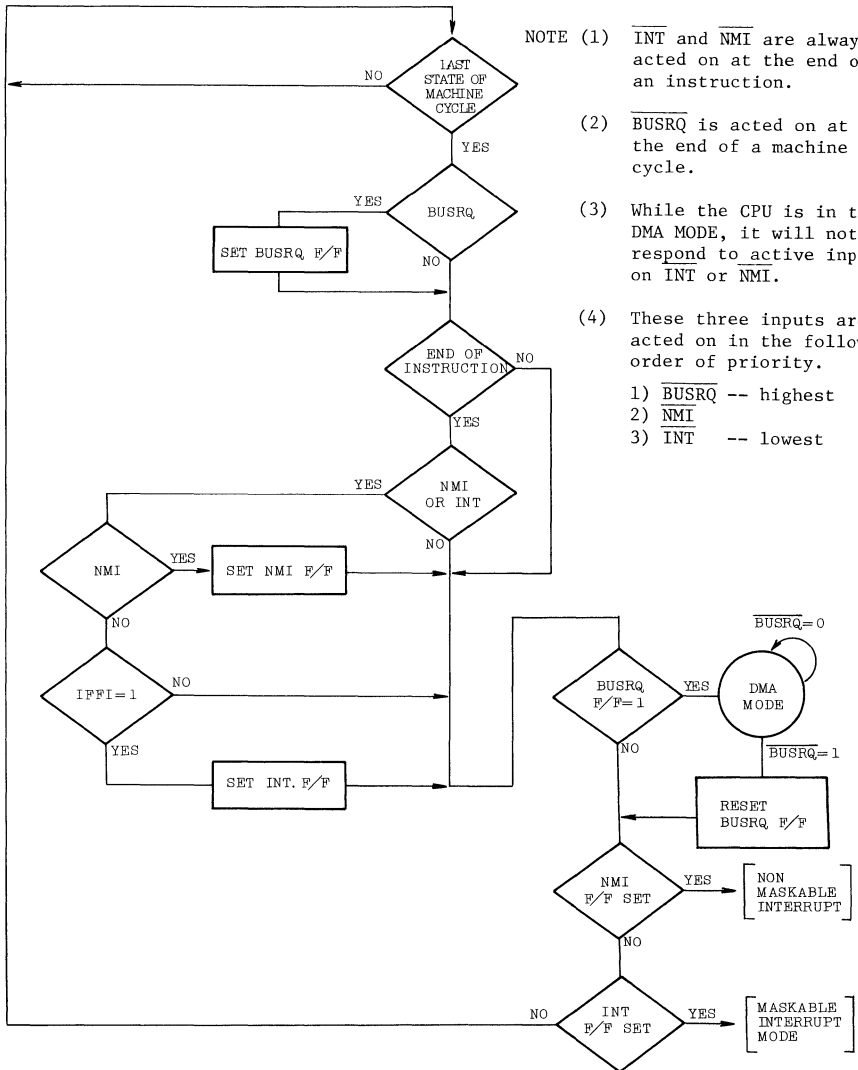

FIGURE 4. Z80 CPU INTERRUPT SEQUENCE
Both the $\overline{\text{INT}}$ and $\overline{\text{NMI}}$ inputs are sampled by the CPU on the rising edge of CLK in the last T state of the last Machine (M) cycle of any instruction. However, if $\overline{\text{BUSRQ}}$ is active at the same time, it will be processed before any interrupts. Figure 4 illustrates the Z80 interrupt service sequence.